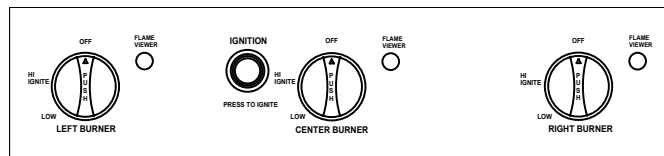

FIGURE 14
- 5- While pushing any burner control knob down, (SEE FIGURE 14, 15, or 16) and turning the knob counter-clockwise to the HIGH position,
- 7- Once you have achieved ignition on the first burner, you may light the others with the same procedure. (SEE FIGURE 14, 15, or 16)
- 8- **Once all burners are lit, close the lid and preheat the barbecue for five (5) minutes before cooking.**
- 9- Once the barbecue has been preheated, adjust the control knobs for proper cooking temperature (SEE FIGURE 14, 15, or 16).
- 10- To shut off the barbecue after use, turn burner control knobs clockwise to the OFF position. (SEE FIGURE 14, 15, or 16) After the flame goes out, turn off the gas supply at either the LP gas cylinder or the Natural Gas line valve.